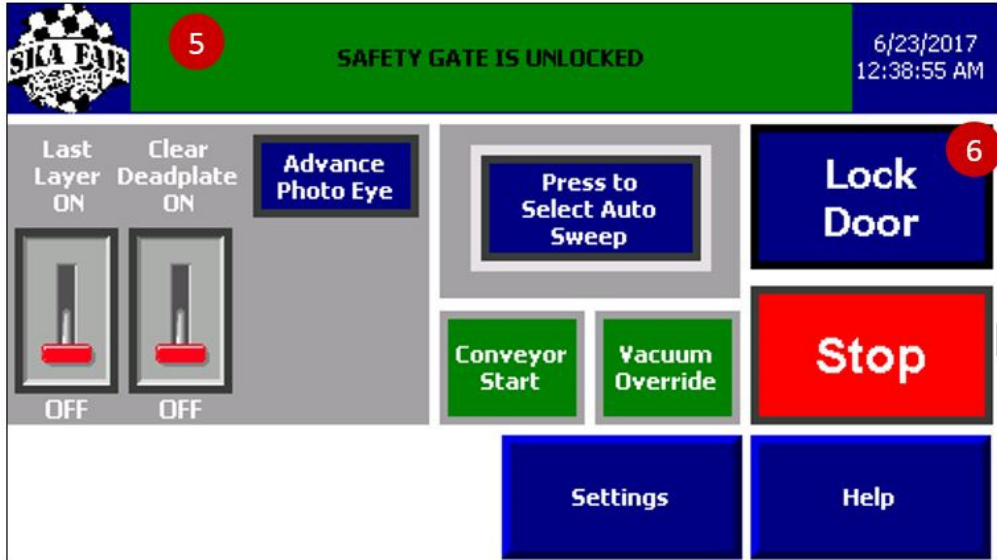

Figure 2 Home / Main Operations Screen – Door Unlocked
- 7 **Unlock Door:** This button is visible if the safety door is locked, the depal is not in automatic running mode, and the lift carriage is at the bottom prox. When the Unlock Door button is pressed, the button is replaced with the STOP button and the Lock Door button will appear above it as shown in Figure 2.